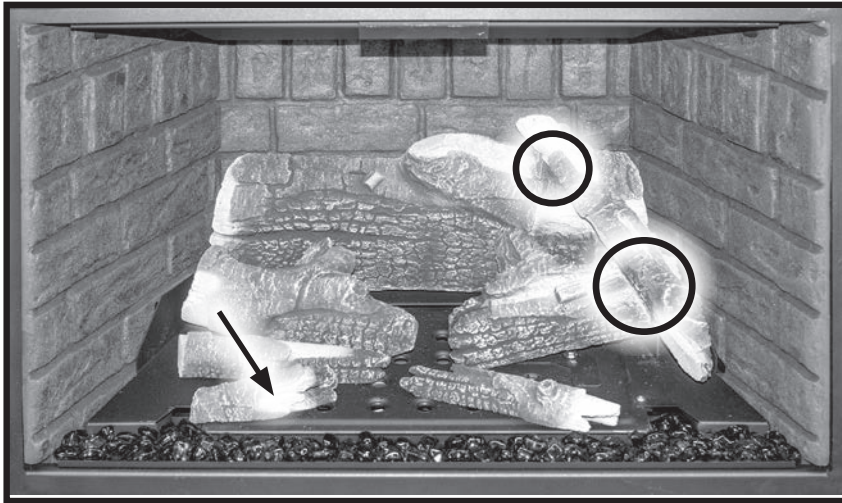

Figure 48. Final Ember Log & First Right Top Log.
5. Install the final ember log, as shown in Figure 48, by locating the drilled holes on the burner pins. Then install the first right top log by sitting the depression on the bottom side onto the half-round on top of the back log. The opposite end of the log sits into the notch on top of the right ember log.